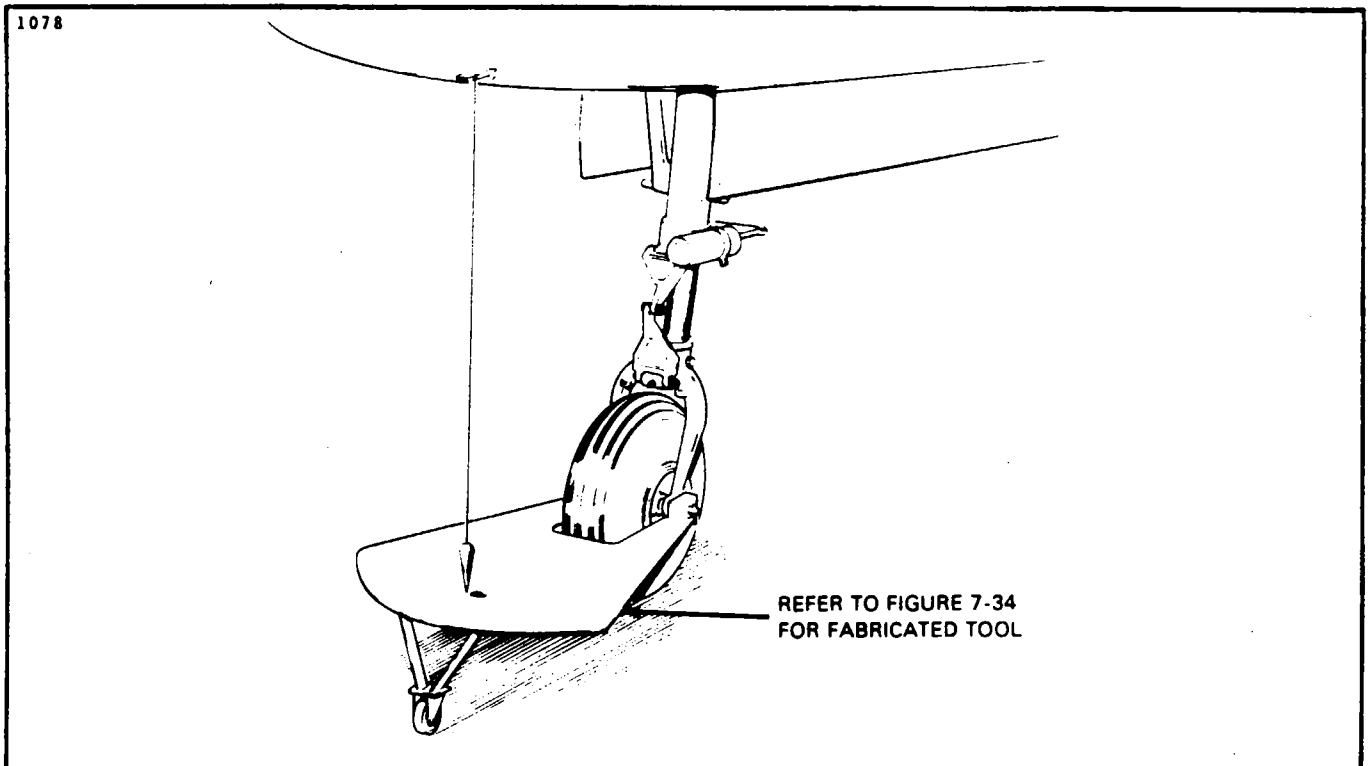

Figure 7-6. Aligning Nose Gear
- c. Attach the (fabricated) nose wheel jig to the front of the nose wheel at the axle and extend and attach a plumb bob from a point that is approximately 20 inches forward along the bottom-center row of rivets as measured from the wheel well opening. (Refer to Figure 7-6.)